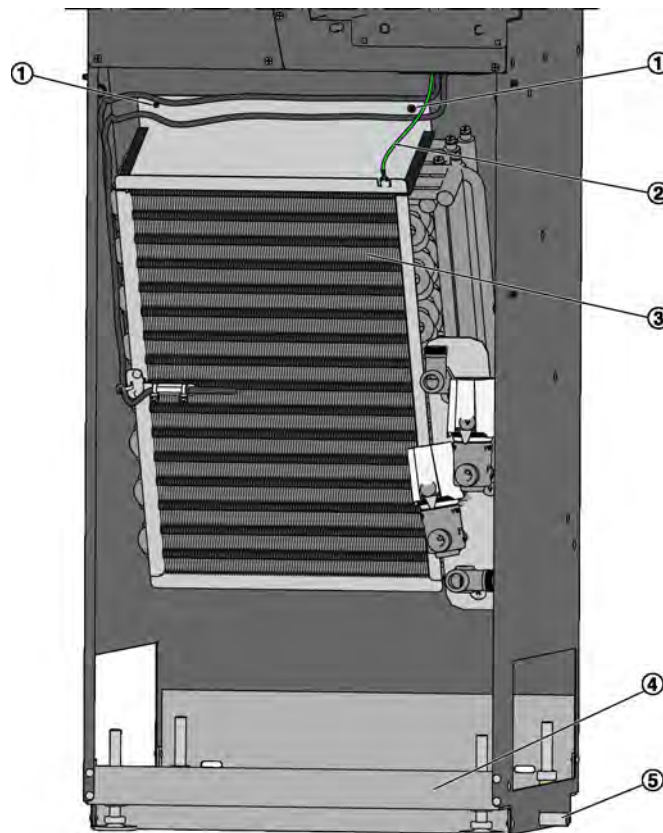

Fig. 30: Heat exchanger (SCHOOLAIR-V shown)
Remove the protective earth conductor (Fig. 30 /2) from the heat exchanger.
Loosen the two Phillips screws (Fig. 30 /1); you can then lift the heat exchanger (Fig. 30 /3) out of the unit.
7. ▶ ■ Clean the condensate drip tray (Fig. 30 /4) with a commercially available cleaner or disinfectant.
■ Check that the condensate drain (Fig. 30 /5) (optional) is not blocked.